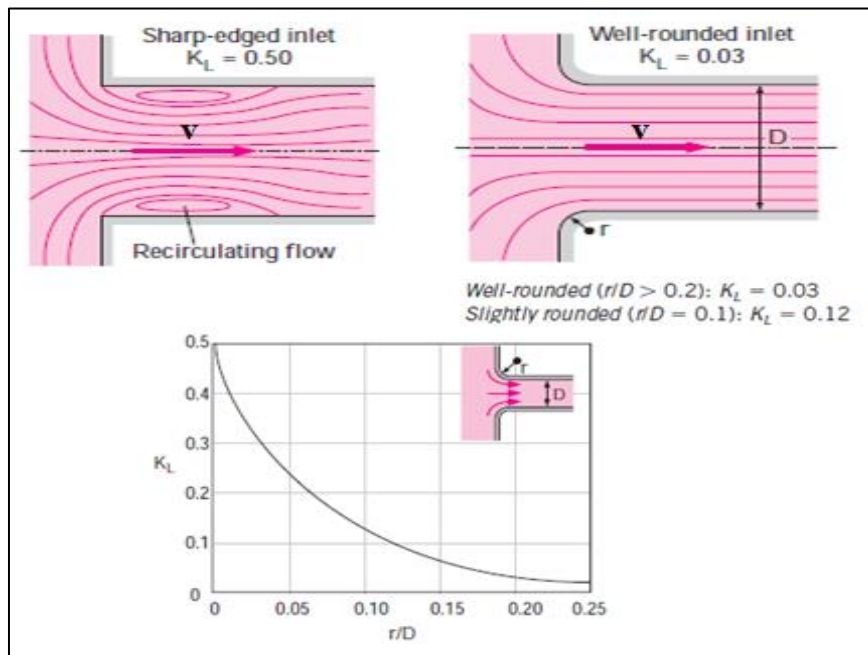

Figure 9. K_L for a Pipe Inlet
- The loss coefficient for a pipe inlet is shown in Figure 9, including the effect of rounding a pipe inlet on the loss coefficient.